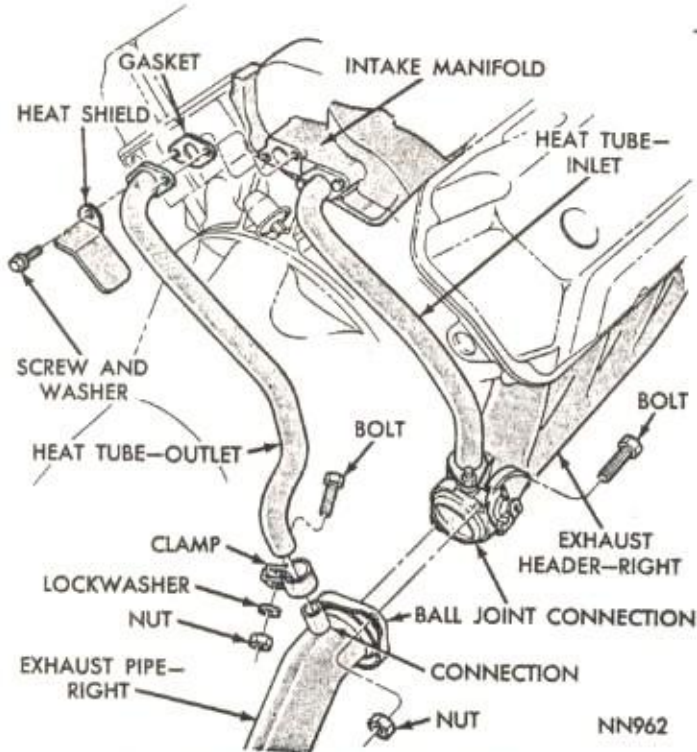

Fig. 2—Intake Manifold Heat Tube Arrangement
The heat tube arrangement (Fig. 2) is incorporated in the exhaust system to divert hot exhaust gases to a heat chamber in the intake manifold at the base of the rear carburetor.
Included in this arrangement is a thermostatic manifold heat control valve located at the rear end of the right hand exhaust header (Fig. 2). Two aluminized steel tubes provide for the passage of the exhaust
gases through the intake manifold heat chamber during the warm-up period. The inlet tube is attached to the top surface of the header by two studs and nuts (Fig. 2). The upper end of the tube is bolted to the rear face of the intake manifold. The outlet tube is also bolted to the face of the intake manifold with its lower end attached by a clamp and bolt to a short pipe connection on the exhaust pipe just to the rear of the ball joint connection.
- (1) Raise vehicle on hoist and apply penetrating oil to bolts and nuts to loosen rust and corrosion.
- (2) Remove exhaust pipe ball joint bolts and nuts at exhaust header flanges. On right hand exhaust pipe, also, remove heat tube clamp bolt and nut and remove clamp and heat pipe from exhaust pipe connection (Fig. 2).
- (3) Remove exhaust pipe U-bolts, washers and saddles and disconnect exhaust pipe from muffler.
- (4) Remove muffler support U-bolt nut and washers and disconnect muffler from tail pipe.
- (5) Remove tail pipe clamp screw and slip tail pipe from clamp.